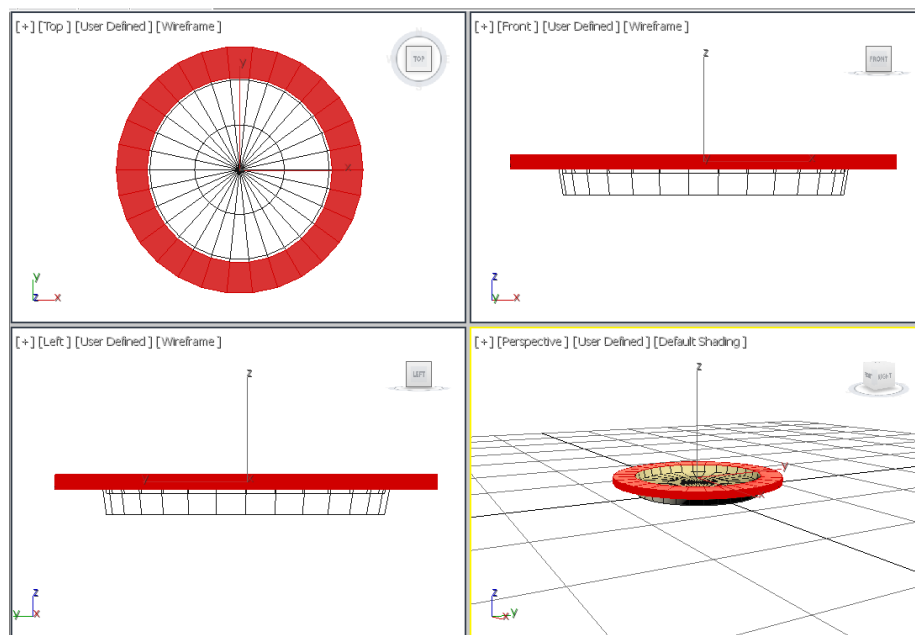

Figure 15-65 The selected polygons moved and scaled
5. Choose the **Select and Move** tool and move the selected polygons upward and then scale them, as shown in Figure 15-65.